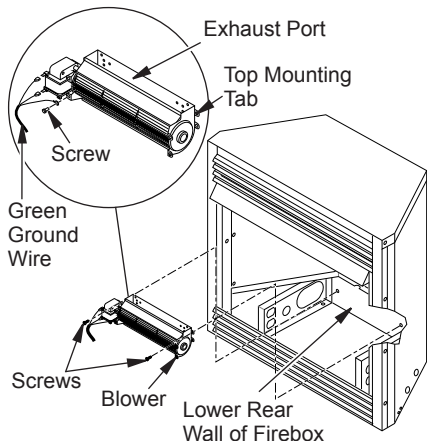

Figure 20 - Mounting Blower to Firebox
- Place the blower against lower rear wall of firebox outer wrapper with the exhaust port directed upward. Align the holes in top mounting tabs of blower with holes in wall of wrapper (see Figure 20). Using 2 screws provided, mount blower and tighten screws securely.